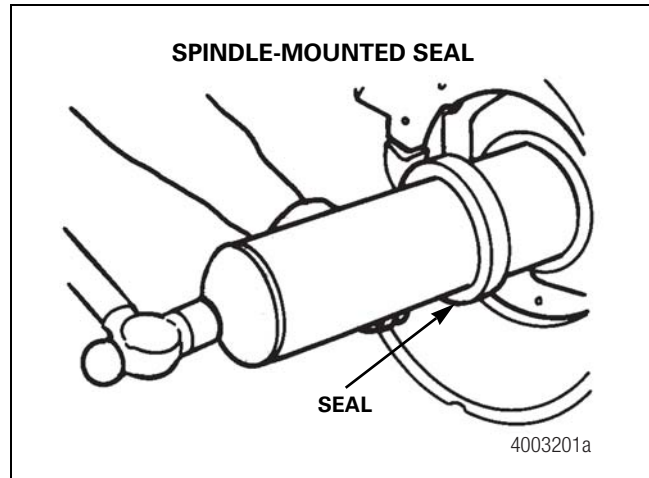

Figure 5.9
- B. **For spindle-mounted seals:** Lubricate the seal according to the seal manufacturer's recommendations, then place it onto the axle oil seal collar. Place the installation tool over the spindle and drive the seal until it is flush with the bearing shoulder. Rotate the tool and apply several light blows to ensure the seal is correctly seated. Figure 5.9.